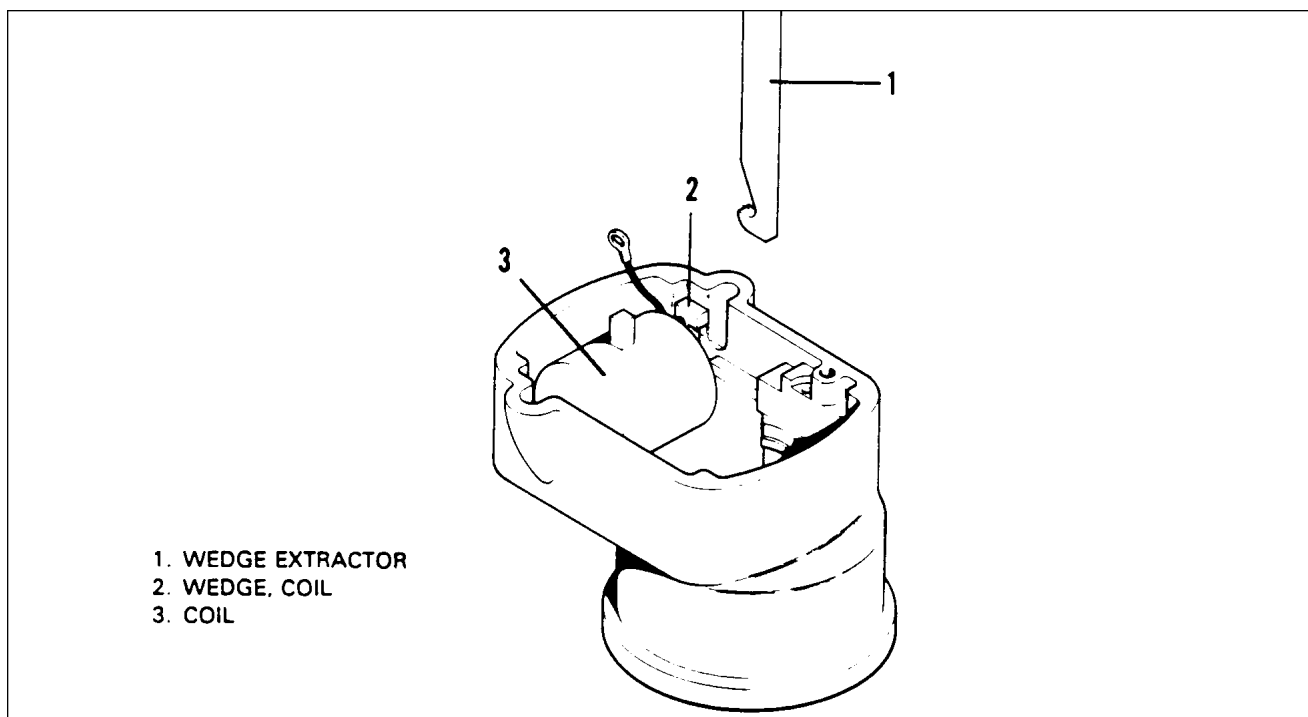

Figure 74-2. Removing Coil Wedges
- h. Using coil wedge extractor T-122, remove coil wedges, lift out, and discard coil. (Refer to Figure 74-2.) Remove air vents. Remove and discard oil seal.